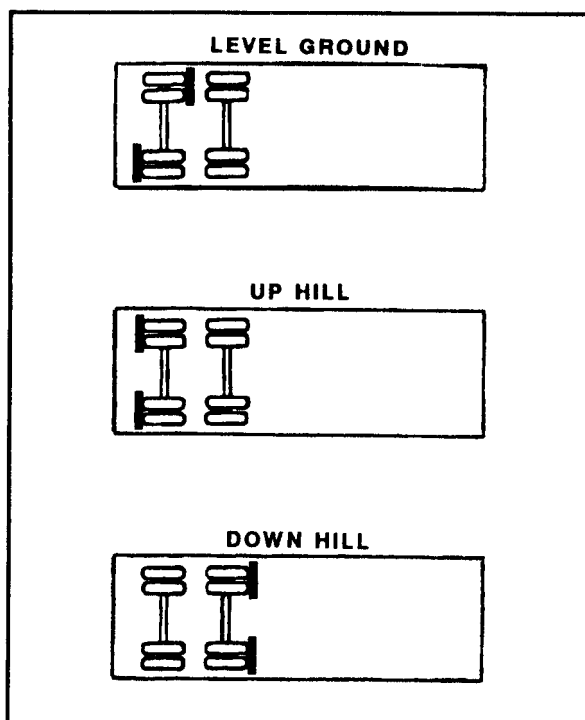

FIGURE 18-1. Chock Block Placement.
When on level ground place one chock block in front of the rear duals. Place the other chock block behind the rear duals of the side wheel (Figure 18-1). For single-axle trailers, place one chock block in front of the left wheel and the other chock block behind the opposite rear wheels.
- Be sure chock blocks are properly placed at semitrailer wheels. If chock blocks are not in place, properly position them (Figure 18-1).